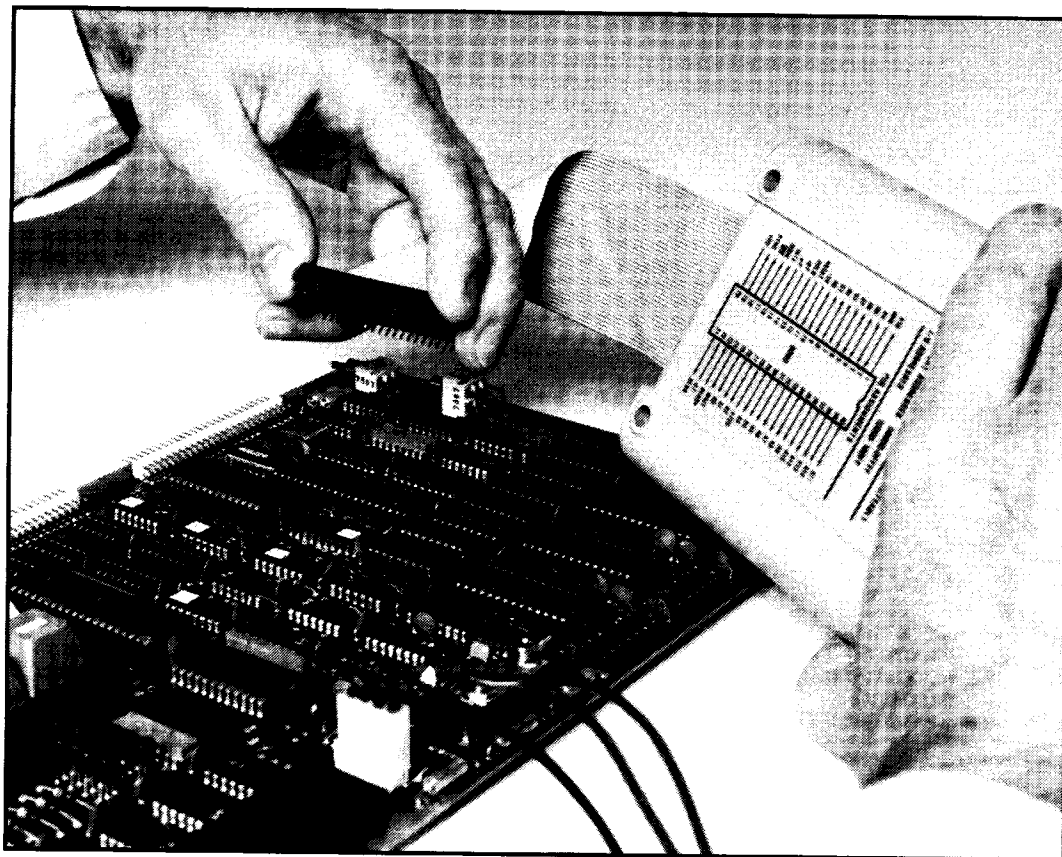

Figure 2-2. Connection of Interface Pod to UUT
6. Align the ribbon-cable with the microprocessor socket on the UUT so that the notched corner of the ribbon cable plug aligns with pin 1 of the socket. Insert the plug into the socket as shown in Figure 2-2.